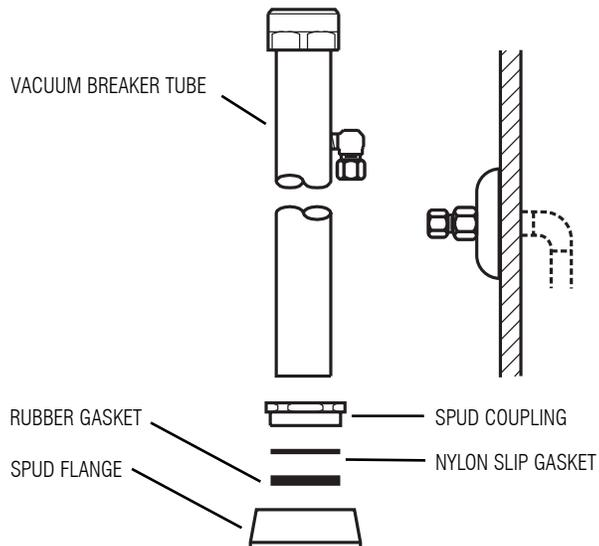

Figure 3
Step 3 — Install Vacuum Breaker Flush Connection (Figure 3)